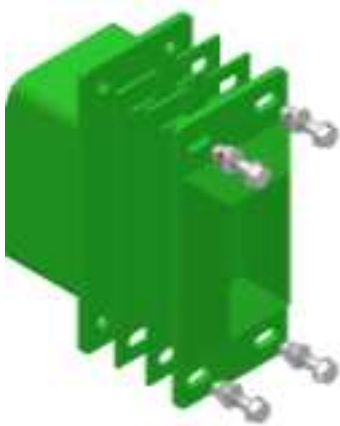

Figure 1
- Fold the arms down and add shims as necessary to close the gap between the male (**Figure 2**) and female (**Figure 1**) sides of the Stack Lock assembly. Longer bolts may be needed as shims are added.